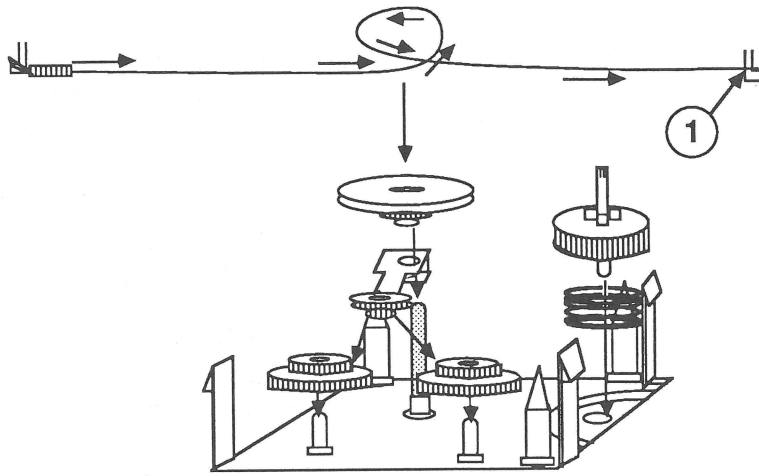

FIGURE 9
16. Disconnect and remove the ribbon wire (Figure 9, #1).
1. Rewrap the ribbon wire as shown in Figure 9. Be sure the wire crosses at the front of the gear. Verify that the spring under the spindle gear is in position before you continue.